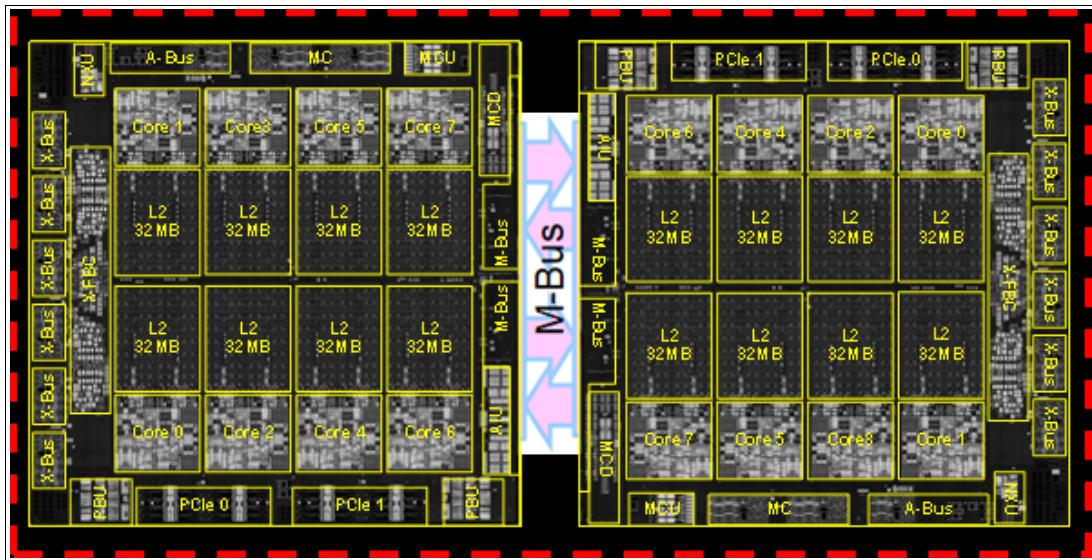

Figure 9-3 IBM z16 A02 and IBM z16 AGZ Dual Chip Module (M-Bus connects the two chips)
- ▶ Two PU chips are packaged on a dual chip module (DCM), shown in Figure 9-3 on page 366. PU chip to PU chip communication is performed through the M-Bus, a high-speed bus and acting as ring-to-ring extension communication at 160 Gbps data rate.